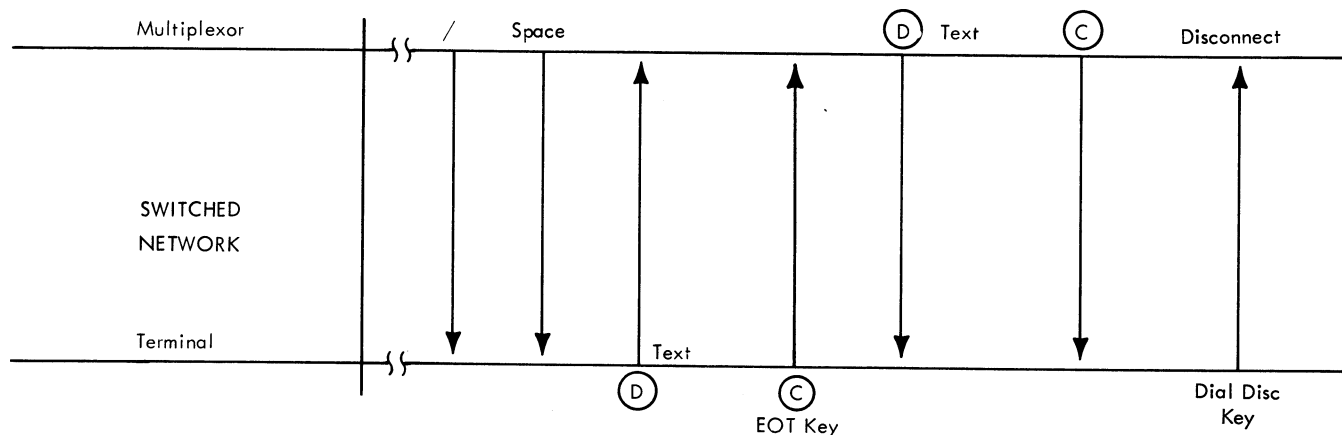

Figure 10. Multiplexer Transmit Control (Without Checking)
This special feature permits a multiplexer to control the send/receive status of a remote terminal. When the multiplexer transmits a special two-character control code (/ space), the terminal shifts to transmit status and sends a (D) to the multiplexer. The (D) code shifts the multiplexer to receive status. (Figures 10 and 11).